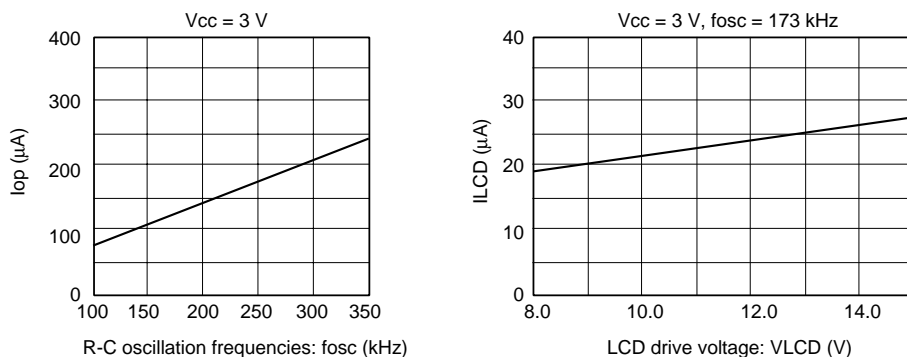

Figure 61 Relationship between the Operation Frequency and Current Consumption
7. The following shows the relationship between the operation frequency (fosc) and current consumption (Icc) (figure 61).